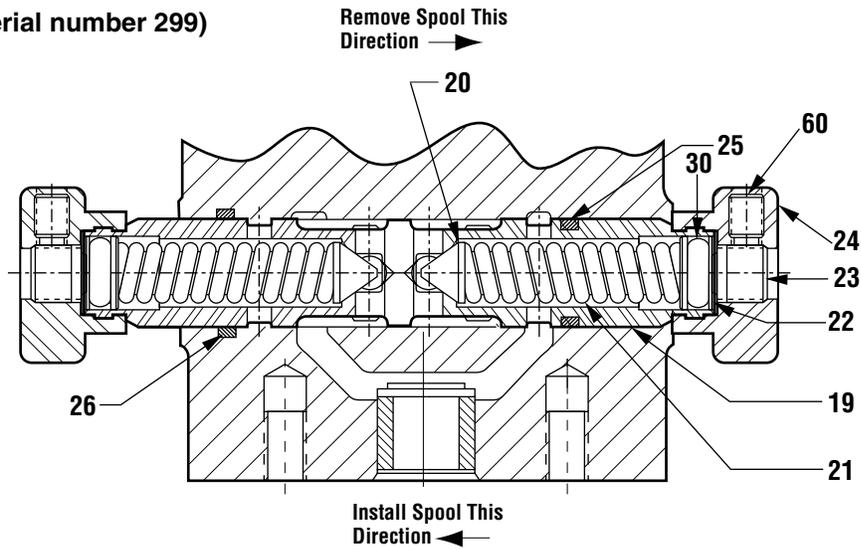

Figure 5
Reversing Spool (See Figure 5)
1. Install O-ring (25) onto reversing spool (19). Replace O-ring (26) in handle (1).
2. Install O-ring (30) on plug (22). At O-ring end of spool (19) install poppet (20), spring (21) and plug (22). Secure assembly with cap (24).
3. Slide reversing spool assembly into handle (1), as shown in Figure 5.
4. Install poppet (20), spring (21) and plug (22) into opposite end of spool (19). Secure with cap (24). Use two wrenches on cap (24) and tighten to 23 foot-pounds.